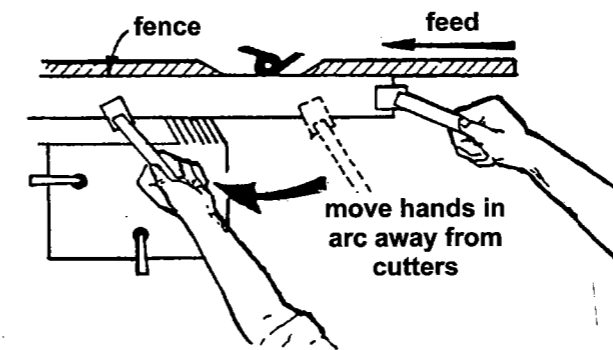

FIGURE 1
**HAND SAFETY:** Never pass the hands directly over or in front of the cutters. As one hand approaches the 12 inch radius point, remove it (or the push stick) in an arc motion and reposition hands 12 inches beyond the cutters, Figure 1.